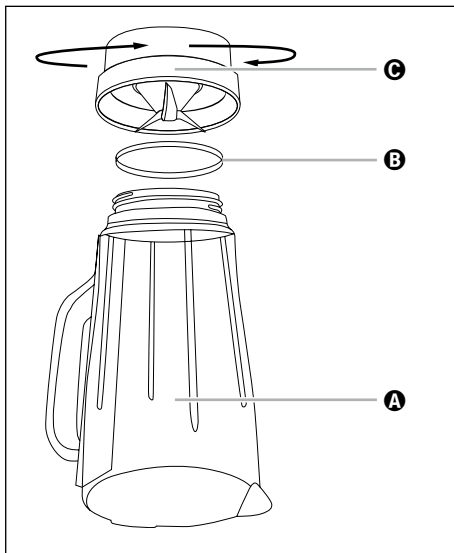

Fig. 4
- 2) Turn the appliance upside down and turn the plastic part ❸ of the blender ❸ anticlockwise so that it can be detached from the glass part ❶ of the blender attachment ❸ (see fig. 4).
- 4) You can carefully remove the sealing ring ❷ from the plastic part ❸ if necessary. Clean in mild soapy water and rinse with clear water.
- 6) If necessary, reinsert the sealing ring ❷ into the plastic part ❸ correctly. Then place the plastic part ❸ of the blender ❸ back on the glass part ❶ of the blender ❸ and turn the plastic part ❸ clockwise.